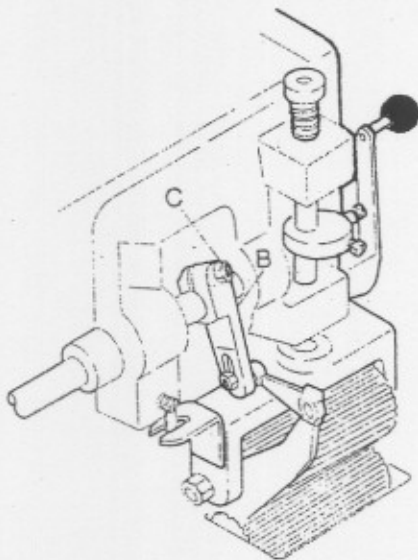

Fig 22
1. Loosen the upper shaft lever nut C in Fig 22.
2. When the upper shaft lever B in Fig 22. is moved to upwards, the feeding becomes lesser, and is done to downwards, the feeding becomes more.